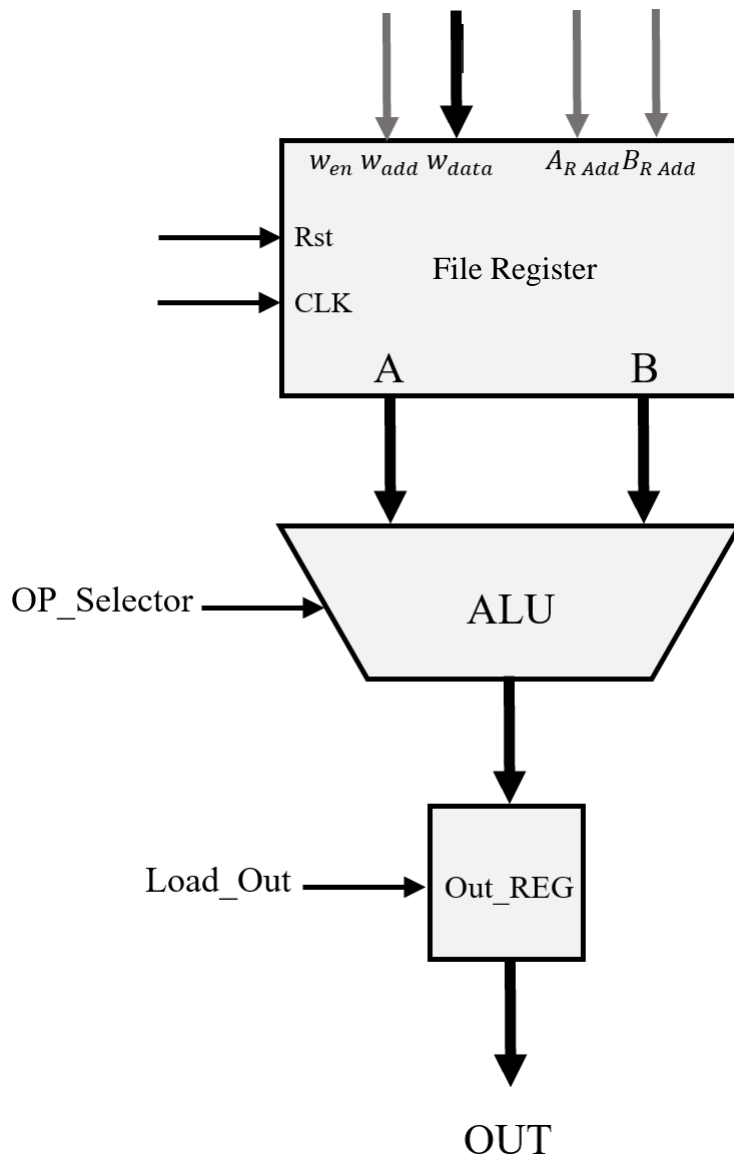

Figure 1 Calculator Block diagram
ASM ALU means to an arithmetic-logic unit who as the capacity to add, subtract and multiplier the value of a register (B) to another register (A). on this case the initial value of the registers was given automatically by their position on the memory. For example, after the reset settings, if the register on the position 5 is multiplied by the register 1, that means that the value in binary 00000101 on the 5th register is multiplied by the value 00000001 on the 1st register, the temporary result is saved on an external register. The characteristic of the calculator is expressed in the following block diagram Figure 1.